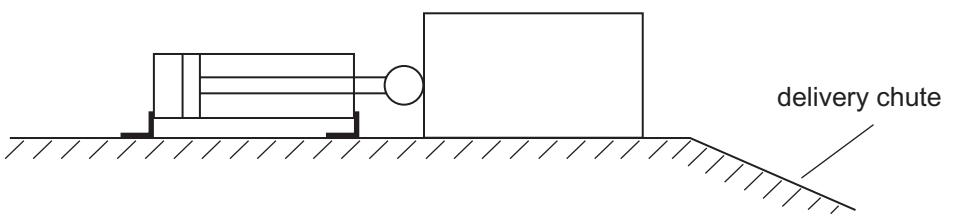
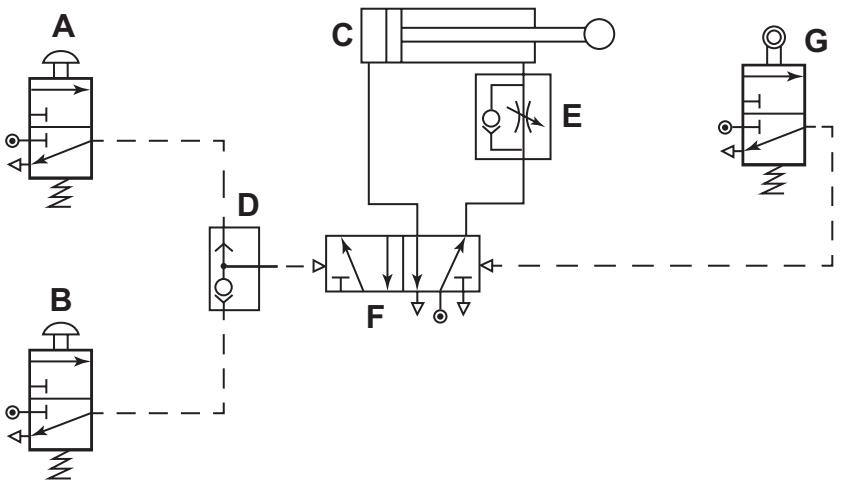
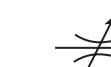

Fig. 2
Fig. 3
**Fig. 4**
- (c) Fig. 2 shows a pneumatic cylinder that is used to push heavy boxes onto a delivery chute.
Fig. 3 shows the pneumatic circuit to control the cylinder in Fig. 2.
(iii) Explain the purpose of valve **E** in **Fig. 3**.
**Error 1:** Valve **D** was left out as shown in **Fig. 4**.
(Compare with **Fig. 3**).
**Error 2:** The valve shown below was fitted in **Fig. 4** instead of valve **E**, as shown in **Fig. 3**.